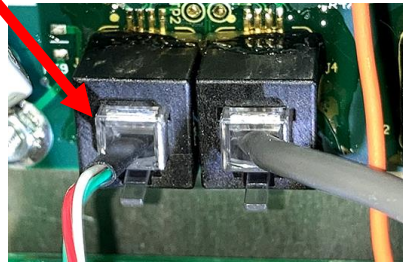

Figure 7
6. Disconnect the RJ11 KCCM CAN/power harness (see Figure 7) from the FIB board.